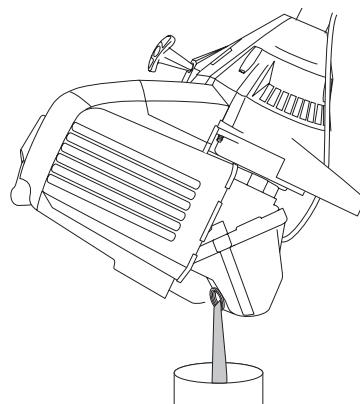

Fig. 25
3. While firmly holding the upper shaft housing, pull the cutting attachment or add-on straight out of the EZ-Link™ coupler (Fig. 25).
3. Pour the oil out of the oil fill hole and into a container by tipping the unit to a vertical position (Fig. 25). Allow ample time for complete drainage.